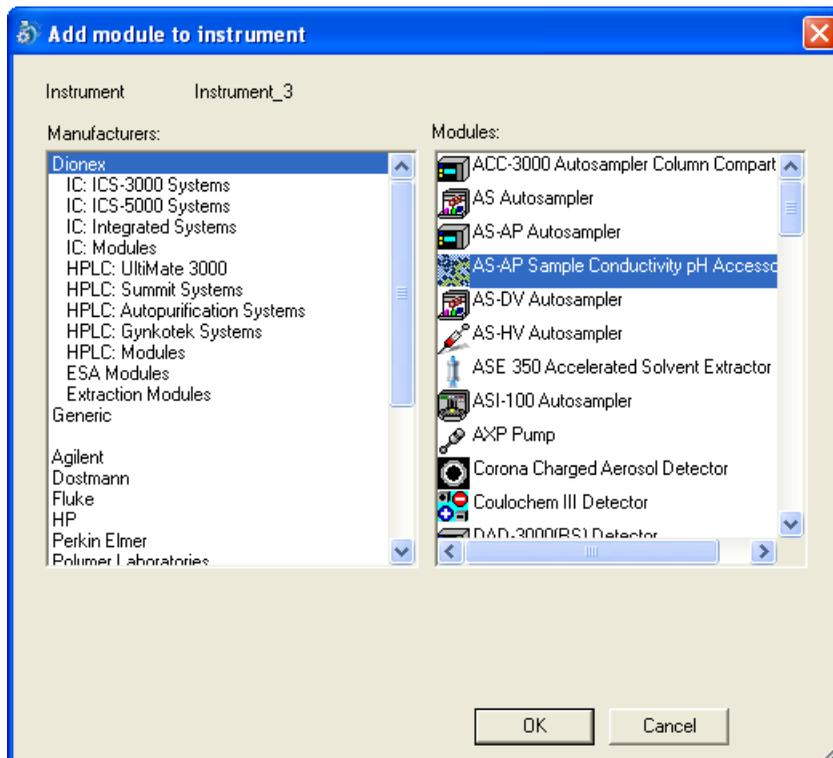

Figure 18. Add the Sample Conductivity and pH Accessory to the Timebase
5. Select the Sample Conductivity and pH Accessory in the list of devices (see Figure 18) and click **OK**.